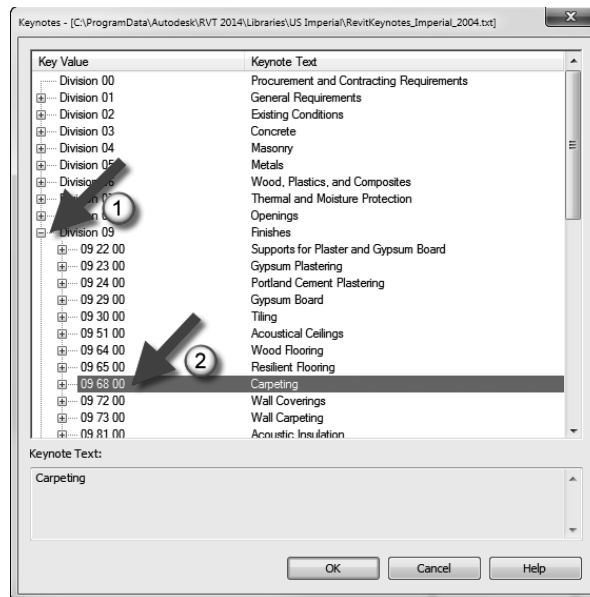

FIGURE 4-3.7 Keynotes selection dialog
- b. Click the small button to the right of the **Keynote** field and then select **09 68 00 Carpet** as shown in Figure 4-3.7).